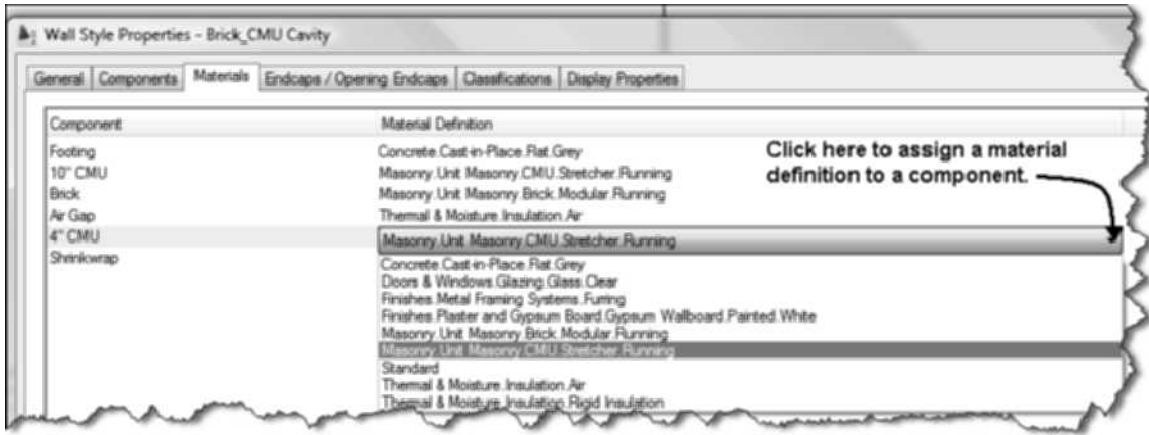

FIGURE 3.23 Materials tab of the Wall Style Properties dialog box
40. Choose the Materials tab. This tab allows you to assign material definitions to a component. Click the Material Definition column as shown in Figure 3.23 to choose a material definition. A material definition displays the material in section and elevation.